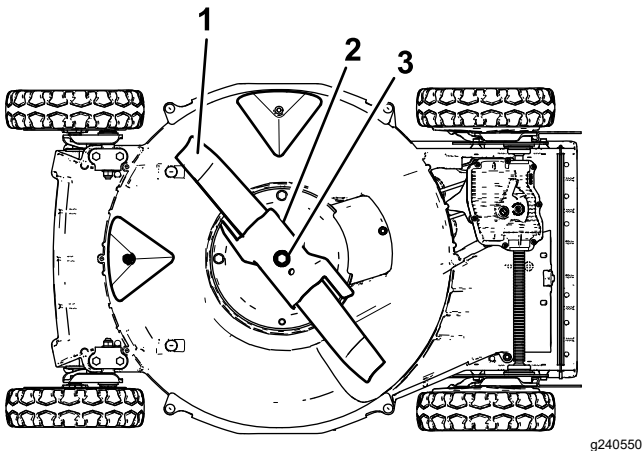

Figure 23
3. Tip the machine onto its side as shown in Figure 23.